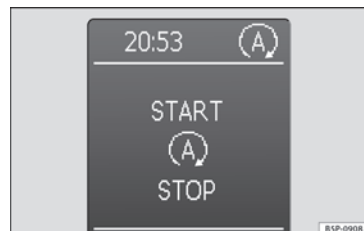

Fig. 133 Display on the instrument panel during Start-Stop function operation.
- The instrument panel display shows information about the status of the Start-Stop function »» Fig. 133.